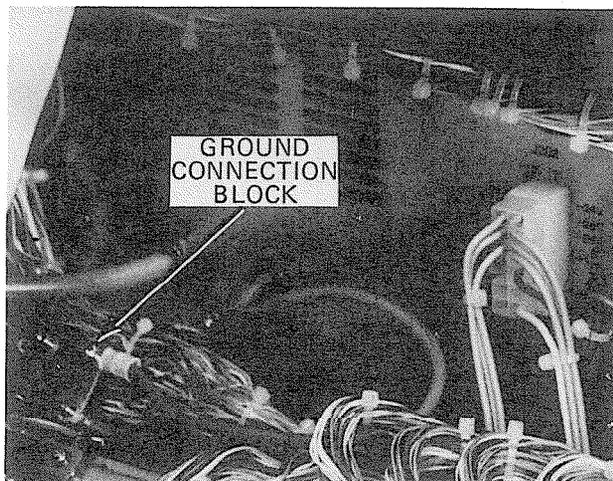

FIGURE 15—DPSA GROUND CONNECTION slot switching on the DSWU PCB and supplies the system tones.
- h) Plug the two connectors into J201 and J202 on the rear of the DPSA and connect the ground wire to the terminal in the upper right corner of the ground connection block (Figure 15).